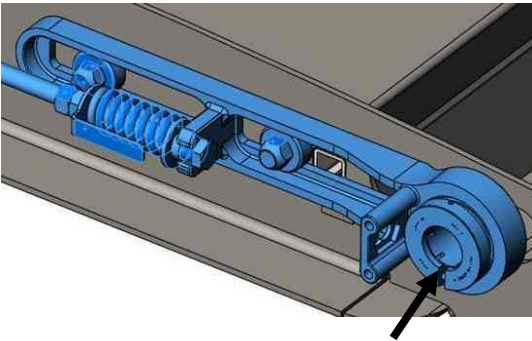

Figure 8
- Install the right-hand cast slider onto the deck, Figure 8.